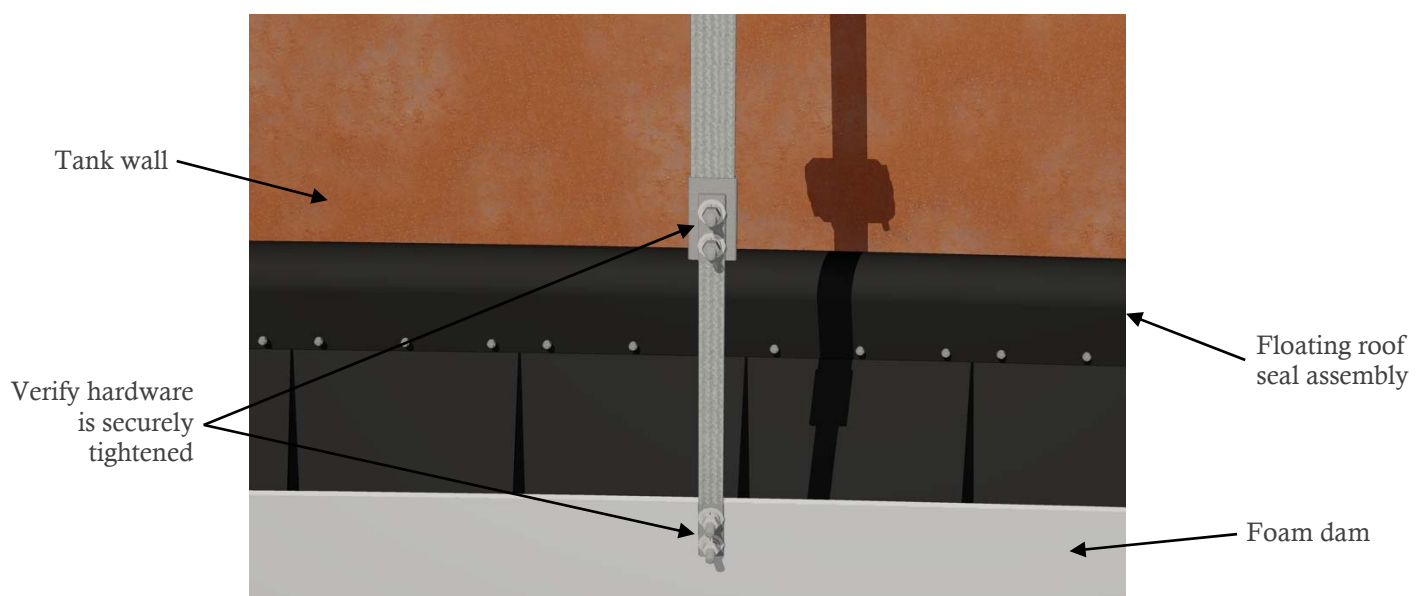

Figure 6: Ensure cable and ground straps are securely attached to foam dam
4.2.6 As shown below in Figure 6, verify that all nuts and bolts connecting the RGA main cable to ground straps and ground straps to foam dam or floating roof connection point are securely tightened.